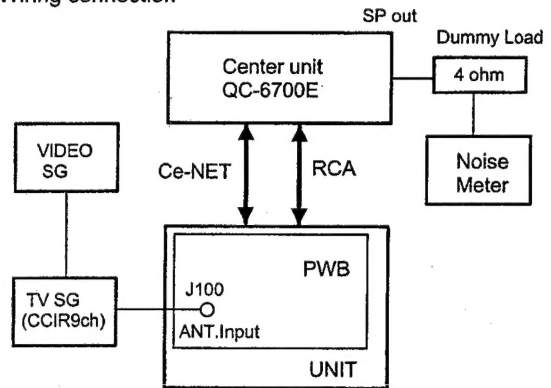

Fig.4
2. Adjust the VR501 so that the display level of the spectrum analyzer becomes 97dB μ to test pattern TP101. (Fig.4)